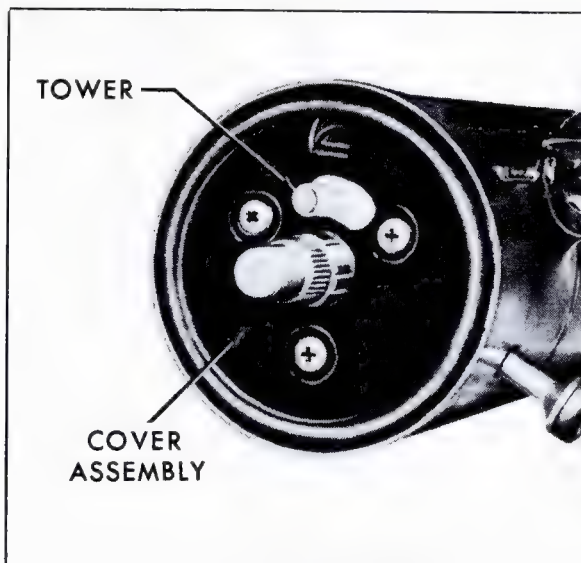

Fig. 9-43 Cover Plate and Tower
2. Remove three screws securing lock plate cover assembly to lock plate and remove cover assembly, Fig. 9-43.